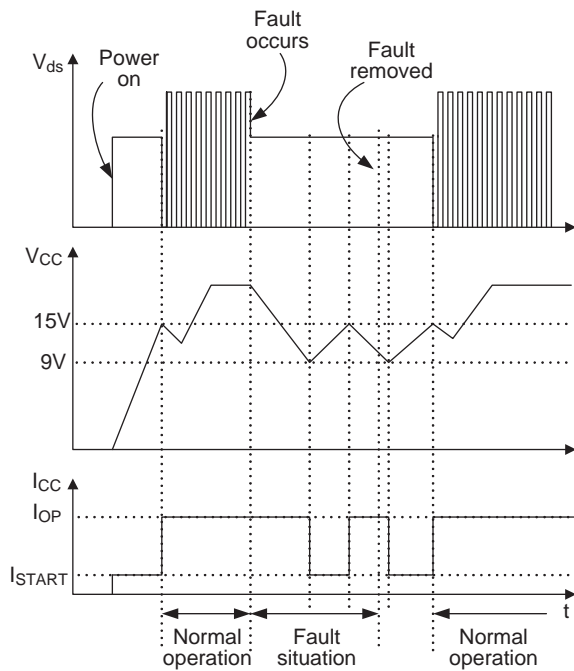

**Figure 11. Pulse Width Modulation (PWM) Circuit**
**3. Feedback Control:** The FSCQ-Series employs current mode control, as shown in Figure 11. An optocoupler (such as Fairchild's H11A817A) and shunt regulator (such as Fairchild's KA431) are typically used to implement the feedback network. Comparing the feedback voltage with the voltage across the Rsense resistor plus an offset voltage makes it possible to control the switching duty cycle. When the reference pin voltage of the KA431 exceeds the internal reference voltage of 2.5V, the H11A817A LED current increases, pulling down the feedback voltage and reducing the duty cycle. This event typically happens when the input voltage is increased or the output load is decreased.
**3.1 Pulse-by-Pulse Current Limit:** Because current mode control is employed, the peak current through the SenseFET is limited by the inverting input of the PWM comparator (Vfb\*) as shown in Figure 11. The feedback current (IFB) and internal resistors are designed so that the maximum cathode voltage of diode D2 is about 2.8V, which occurs when all IFB flows through the internal resistors. Since D1 is blocked when the feedback voltage (Vfb) exceeds 2.8V, the maximum voltage of the cathode